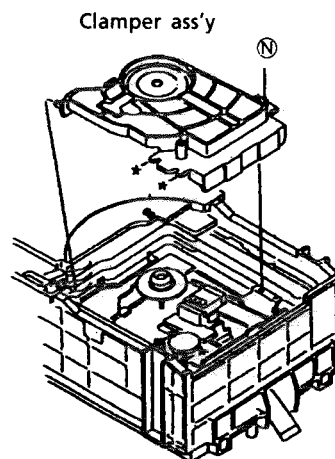

Fig.20
5. Remove a screw ⑥ securing center of the clamper ass'y. (See Fig. 20)